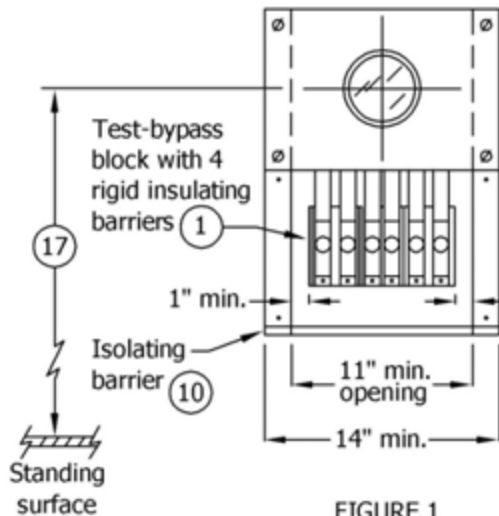
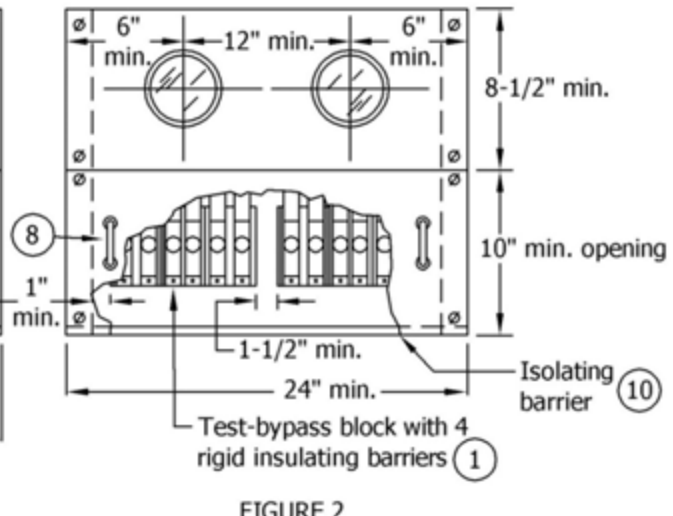

FIGURE 1
FIGURE 2
4. Minimum access opening to test-bypass blocks shall be 11" x 10" for Figure 1 and 21-½" x 10" for Figure 2.
- ⑧ Test-bypass cover panels shall be sealable and fitted with a lifting handle. All panels exceeding 16" in width shall require two lifting handles.
- ⑩ Factory-installed full-width insulating barriers with a maximum deflection of ½" from an applied force of 25 pounds downward, shall be located at the bottom of each test-bypass compartment. In addition, a full width and depth isolating barrier shall be located below the bottom test-bypass compartments and above the load terminals of the meter disconnect devices. If a factory-installed rear-load wireway is provided, the isolating barrier shall extend back to that wireway. Ventilation openings, when provided, shall not exceed a maximum diameter of ⅜". A slot in the isolating barrier provided for the load conductors supplied from the test-bypass blocks shall be a maximum of 1-½" in depth and may extend to the width of the meter disconnect devices. The slot may not be located in the front 6" of the test by-pass compartment insulating barrier.